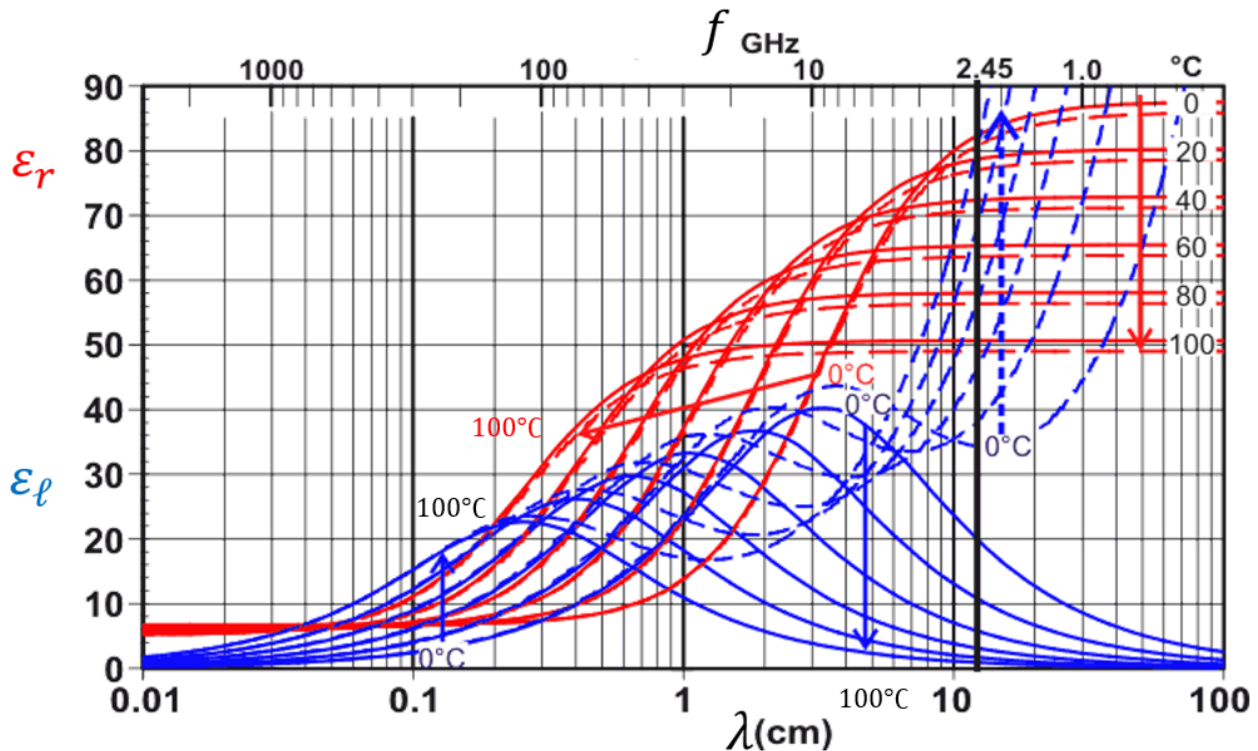

Figure 5. The arrows indicate the variation with temperature across the curves from 0°C to 100°C.
Figure 5 depicts ϵ_l (blue) and ϵ_r (red) for both pure water (solid lines) and a dilute solution of salt in water (dashed lines) as functions of wavelength or frequency, at several different temperatures. The angular frequency $\omega = 2\pi \cdot 2.45 \cdot 10^9 \text{ s}^{-1}$ is indicated by a bold vertical line. Below we will consider microwave radiation at this frequency only.
- B.5** Use Figure 5 to address the following questions: 0.7pt